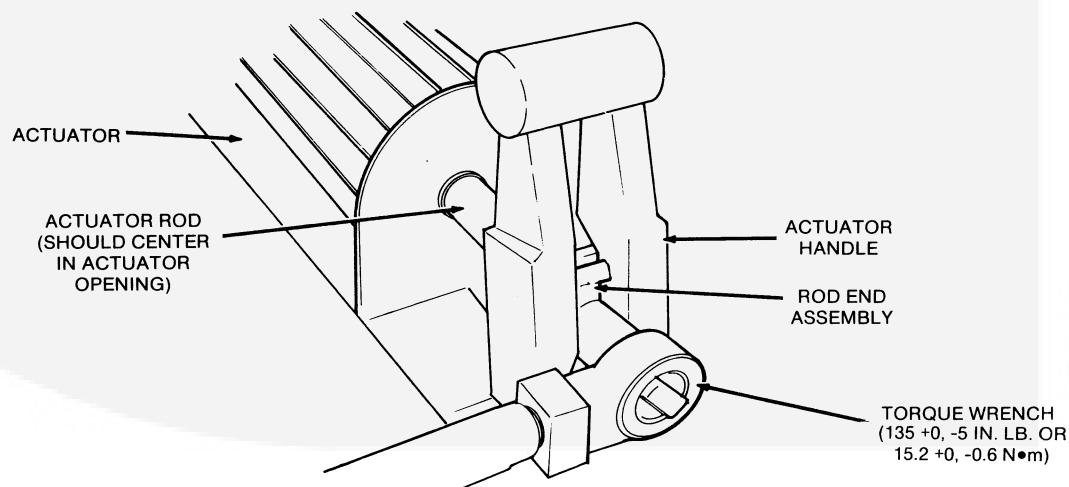

FIGURE 38. INSTALLING ROD END ASSEMBLY
30. Move the actuator rod ground brush over to the side just enough so you can insert the actuator rod through the linear actuator. See Figure 38.